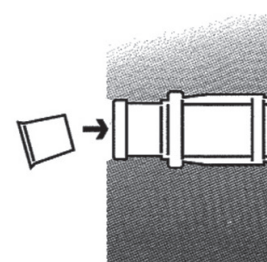

Fig. 6.7
4. After unscrewing the tie rod, close the hole in the concrete with plug 18 (Fig. 6.7).